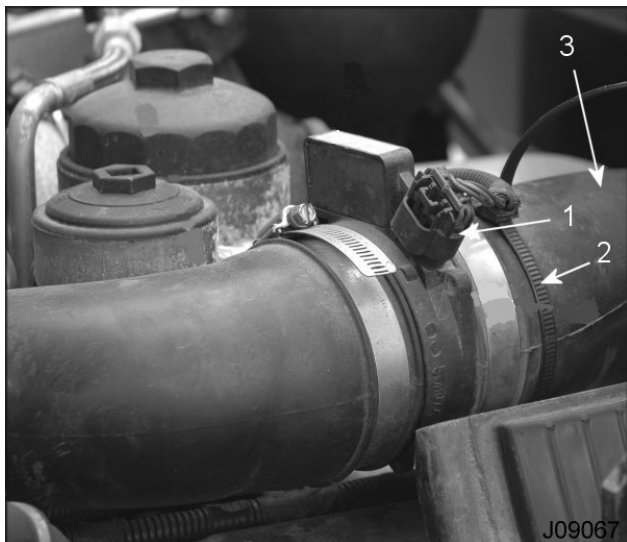

Figure 1
1. Disconnect mass air flow sensor (MAF) wiring and cut tie strap (Figure 1).